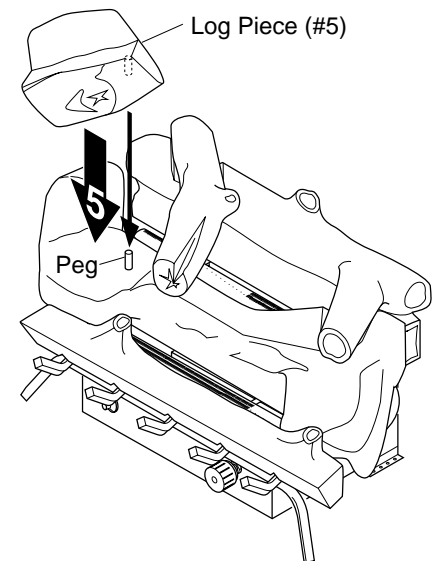

Figure 25 - Installing Log Piece (#5)
- With knot to right side, place smaller log piece (#5) over the pin on the left side of the middle log. The smaller log will rest on front log against the "knot" on the left (see Figure 25).